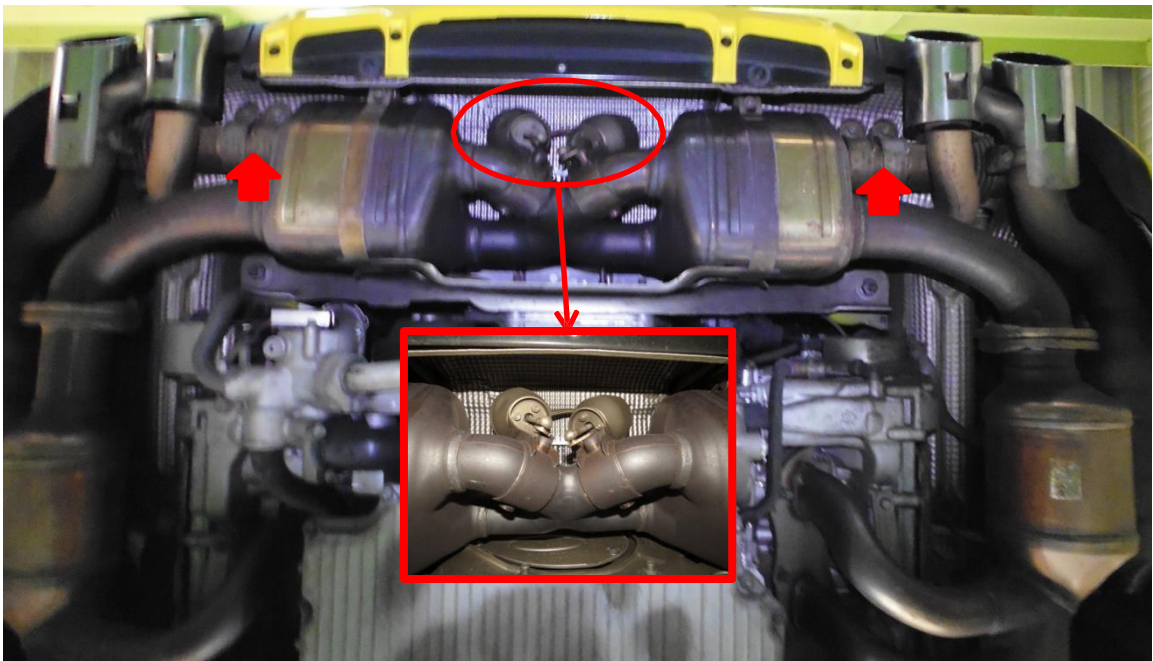

Fig 1-4
3. Use the 13mm wrench to remove the left and right sliding bushes of the muffler. (Fig1-4)
4. Remove the original vacuum source from the red circle. (Fig1-4)